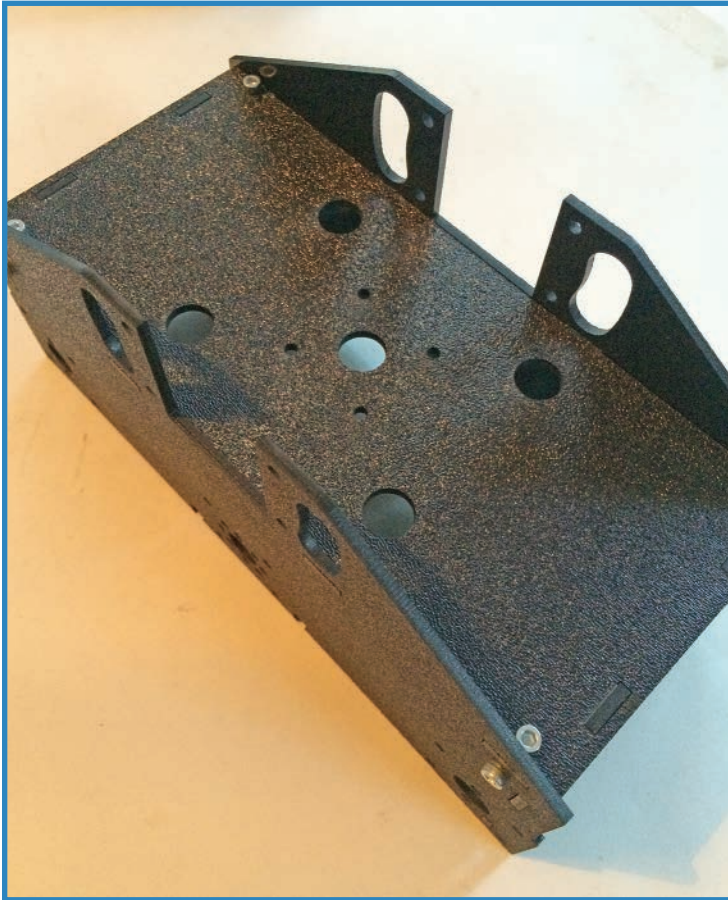

FIGURE 13.10 Assemble the ABS chassis.
1. Assemble the ABS chassis. The chassis, shown in Figure 13.10, screws together with the help of the accompanying #6-32 socket-head screws and matching connector blocks. It's called the ABS chassis because it's built out of heavy and durable plastic, called ABS, or acrylonitrile butadiene styrene; it's the same stuff used in LEGO bricks. In addition to its durability, ABS is easily drilled and the chassis comes equipped with mounting holes, allowing you to install any type of hardware you could think of.